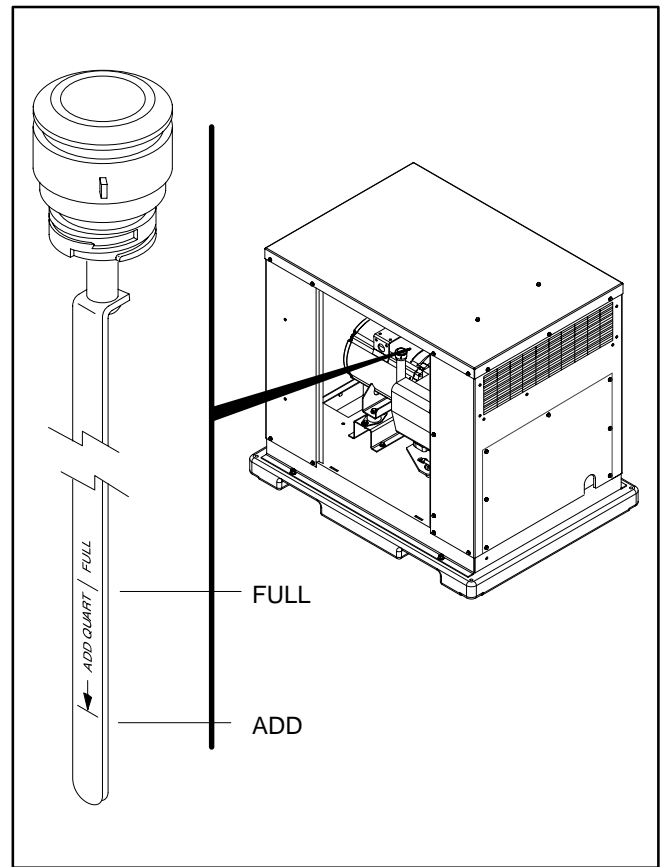

FIGURE 4-1. OIL LEVEL CHECK
1. Remove the oil fill cap/dipstick (see Figure 4-1), wipe it clean, screw the cap back on and then remove it again to check the oil level on the dipstick.